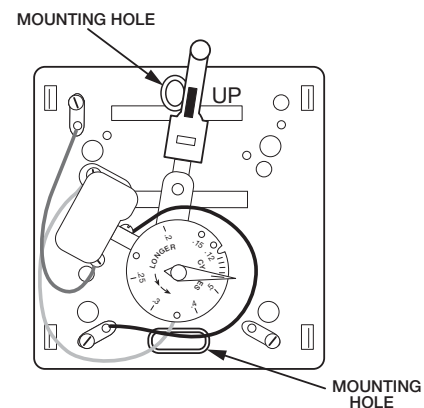

Figure 24.5
- e. Using the hardware included in the box with the thermostat, screw the backer plate to the wall (**Figure 24.5**).